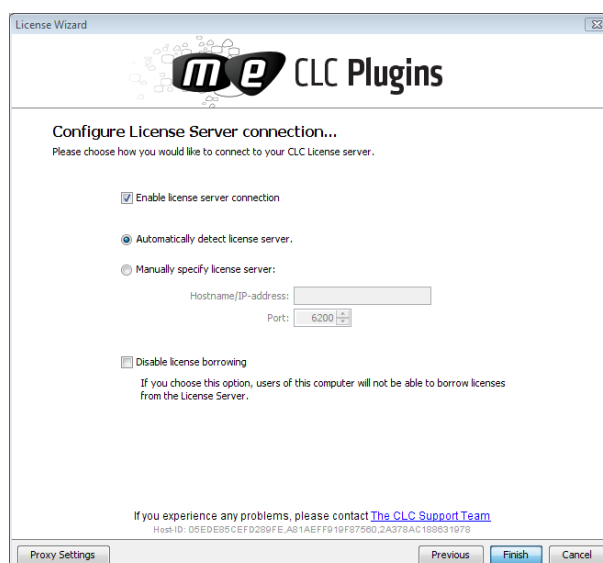

Figure 2.15: Connecting to a CLC License Server.
To do this, select this option and click on the **Next** button. A dialog like that shown in figure 2.15 then appears. Here, you configure how to connect to the CLC License Server.
- Configure how to connect to a license server (**Configure License Server** the button at the lower left corner). Clicking this button will display a dialog similar to figure 2.15.